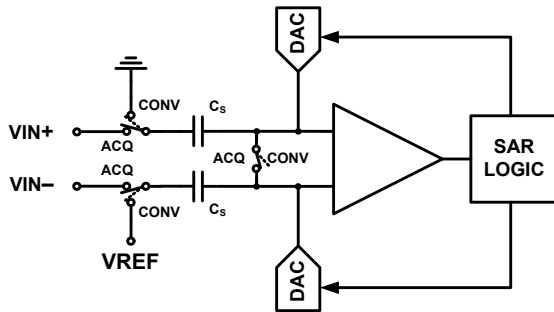

FIGURE 21. SAR ADC ARCHITECTURAL BLOCK DIAGRAM
The ISL267440, ISL267450A are based on a successive approximation register (SAR) architecture utilizing capacitive charge redistribution digital to analog converters (DACs). Figure 21 shows a simplified representation of the converter. During the acquisition phase (ACQ) the differential input is stored on the sampling capacitors (CS). The comparator is in a balanced state since the switch across its inputs is closed. The signal is fully acquired after tACQ has elapsed, and the switches then transition to the conversion phase (CONV) so the stored voltage may be converted to digital format. The comparator will become unbalanced when the differential switch opens and the input switches transition (assuming that the stored voltage is not exactly at mid-scale). The comparator output reflects whether the stored voltage is above or below mid-scale, which sets the value of the MSB. The SAR logic then forces the capacitive DACs to adjust up or down by one quarter of full-scale by switching in binarily weighted capacitors. Again, the comparator output reflects whether the stored voltage is above or below the new value, setting the value of the next lowest bit. This process repeats until all 12 bits have been resolved.